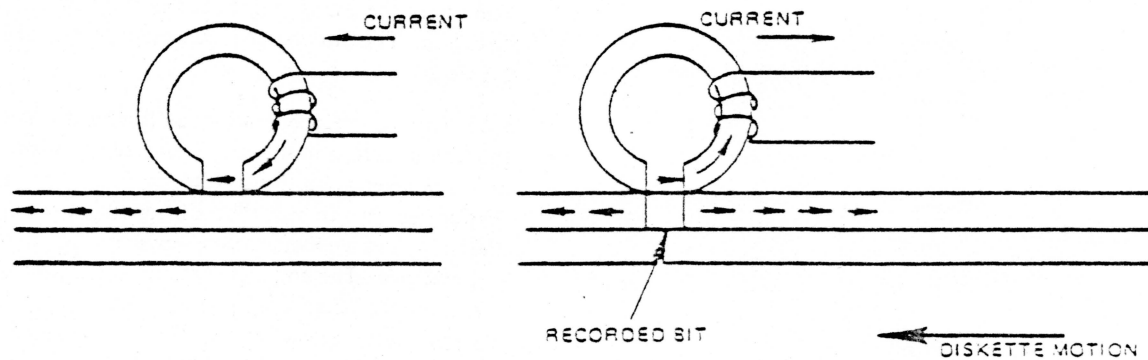

FIGURE 20. RECORDED BIT
7.3 The drive writes 2 frequencies 1F 62.5 KHz and 2F 125 KHz. During a write operation, a bit is recorded when the flux direction in the ring is reversed by rapidly reversing the current in the coil. The fringe flux is reversed in the gap and hence the portion of the flux flowing through the oxide recording surface is reversed. If the flux reversal is instantaneous in comparison to the motion of the diskette, it can be seen that the portion of the diskette surface that just passed under the gap is magnetized in one direction while the portion under the gap is magnetized in the opposite direction. This flux reversal represents a bit. See Figure 20.